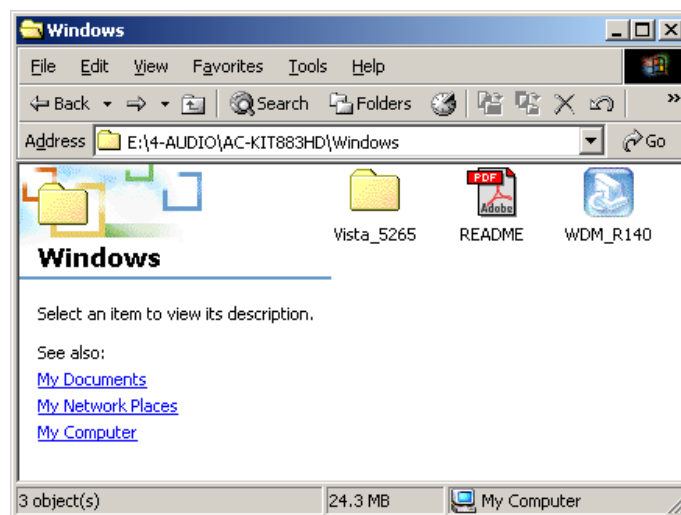

Figure 7-23: 4-AUDIOAC-KIT883HD\Windows Folder
Step 2: From the main driver menu, navigate to **X:\4-AUDIOAC-KIT883HD\Windows** (or other appropriate OS). **X:** represents the system CD drive. A new window appears showing the folder contents (**Figure 7-23**).